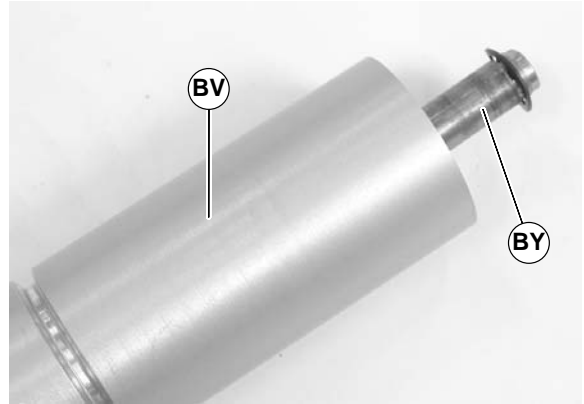

Figure 74
- Slide the shaft assembly (BY of Figure 74) out of the pulley (BV).